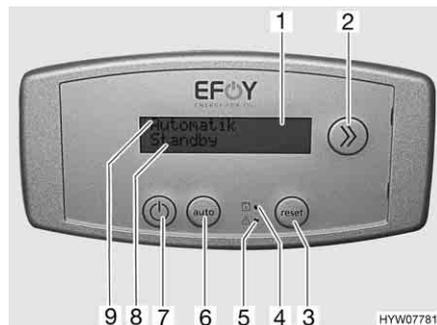

Fig. 155 Operating unit fuel cell
The fuel cell consists of several components that are installed in the rear storage space (Fig. 153) and of an operating panel (Fig. 155) in the living area.
The fuel cell automatically charges the living area batteries if their voltage falls below 12.5 V and if the fuel cell is switched on using the On/Off key (Fig. 155,7).
The display (Fig. 155,1) of the operating unit has two lines. In the first line (Fig. 155,9) the operating status of the fuel cell is shown.
In the second line (Fig. 155,8) information or error messages are issued.
Changing over to the available information is done using the info key (Fig. 155,2).
Both LEDs on the console show when it is necessary to change the tank cartridge (Fig. 155,4) as well as errors that occur (Fig. 155,5).
After remedying the error, start the fuel cells again. To do this, press the reset key (Fig. 155,3).
- Press On/Off key (Fig. 155,7).
In the first line of the display (Fig. 155,9), the current operating mode is displayed.
- When the display "Ein" (ON) is issued, the fuel cell is in the manually selected charging mode. Press the "auto" key (Fig. 155,6) to change to the automatic operating mode.
- If the fuel cell is not switched off yet, press the ON/OFF key (Fig. 155,7).